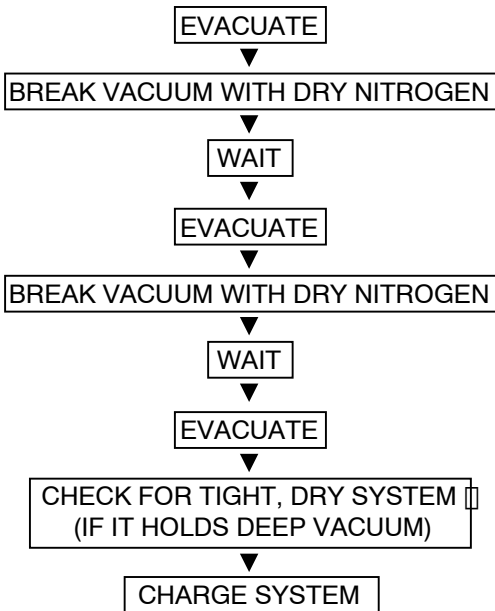

Fig. 9 - Triple Evacuation Method
The triple evacuation method should only be used when vacuum pump is only capable of pumping down to 28 in. of mercury vacuum, and system does not contain any liquid water. Refer to Fig. 9 and proceed as follows:
5. Repeat this procedure as indicated by Fig. 9. System will then be free of any contaminants and water vapor.